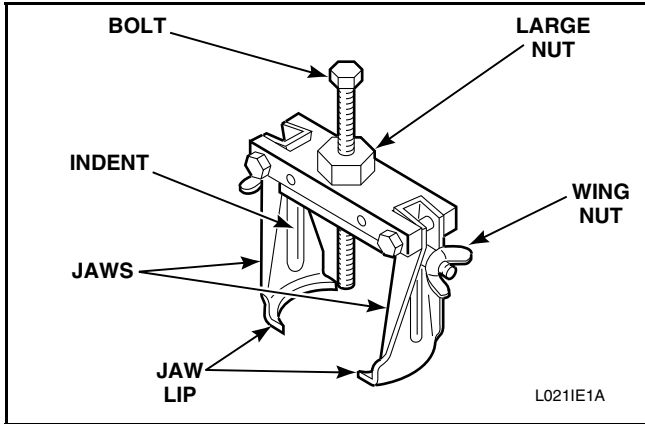

Figure 30
- Back bolt out of 294P4 Drive Bell Tool approximately three quarters of the way. Refer to *Figure 30*.